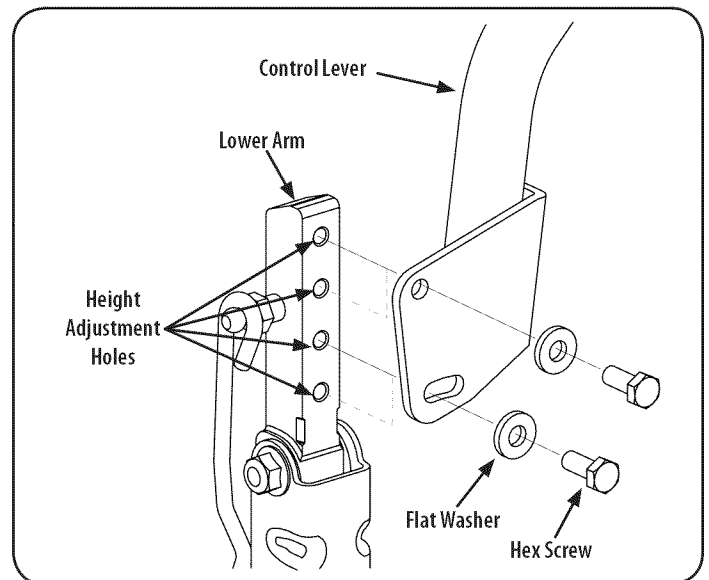

Figure 26
2. While supporting the control lever to keep it from falling, remove the hex screw and flat washer from the bottom of the control lever and lower arm. Refer to Figure 26.
1. If not already loose, loosen the hex screw and rotate the control lever either forward or rearward to the desired position. See Figure 26.